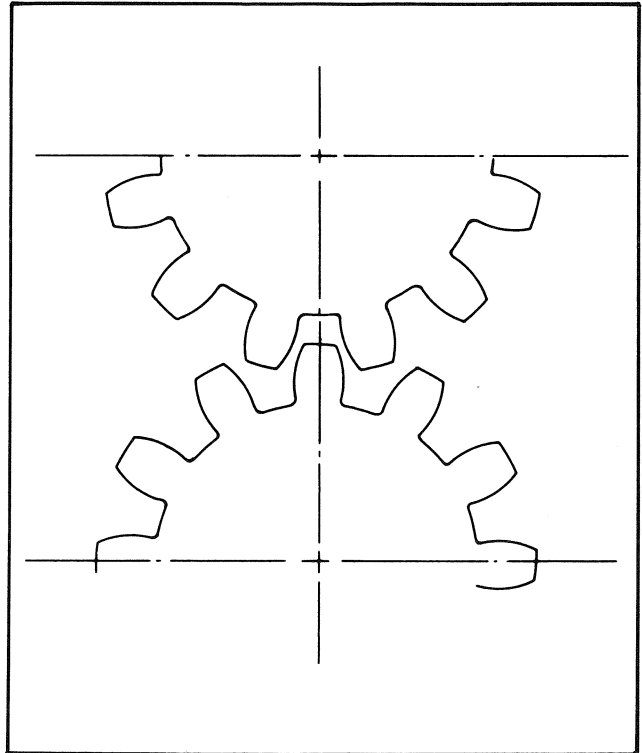

Fig. 4-11
3. Move the plate until proper one-half tooth engagement is obtained at the worm gear and the rear sprocket drive gear. (See figure 4-11.)